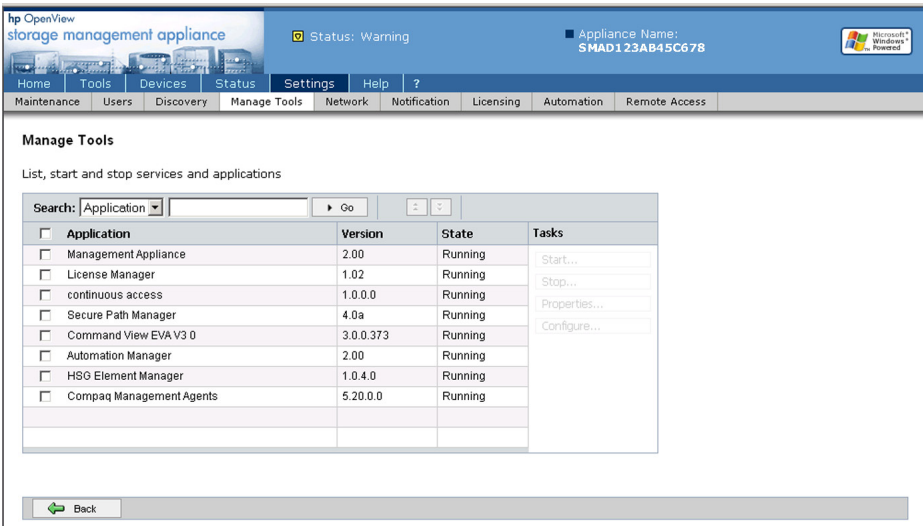

Figure 34: SMA Manage Tools page
3. Click **Manage tools**. The Manage Tools page is displayed (Figure 34) and lists applications installed on the SMA.